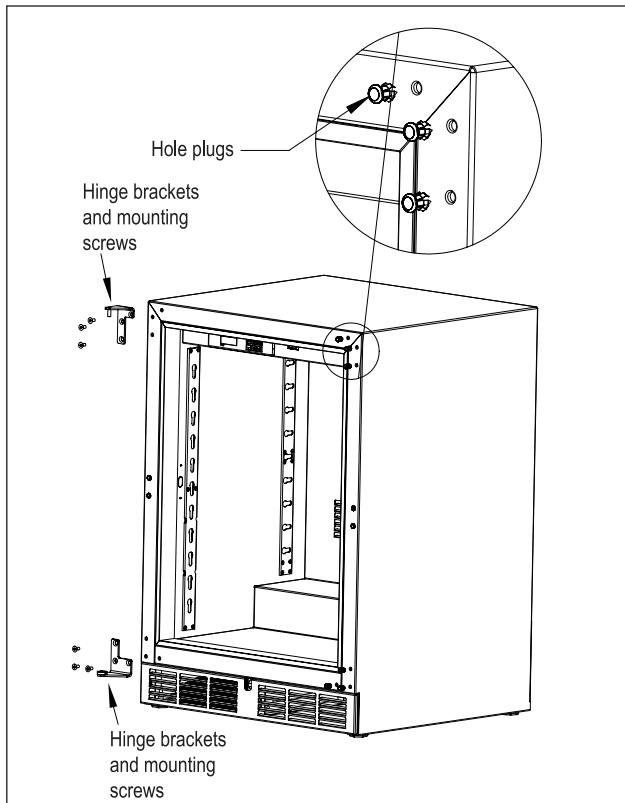

*Figure 7. Door Removal*
1). Support the door in the open position as shown in Fig. 7 on page 9. Remove the hinge pin.